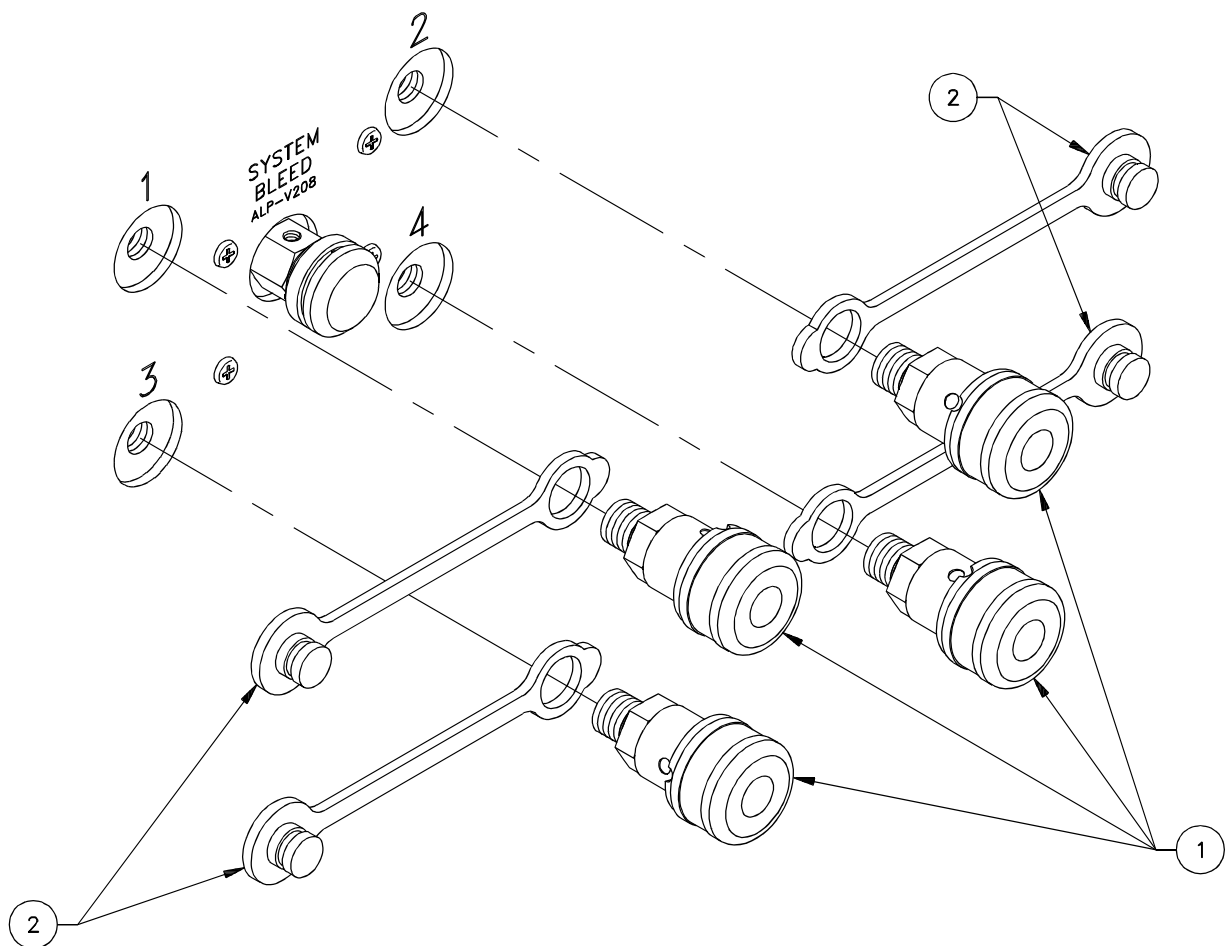

Figure 6-10. LP Quick Disconnects
#### 6.5.2.11 LP Quick Disconnect (QD) Removal and Replacement (Figure 6-10).